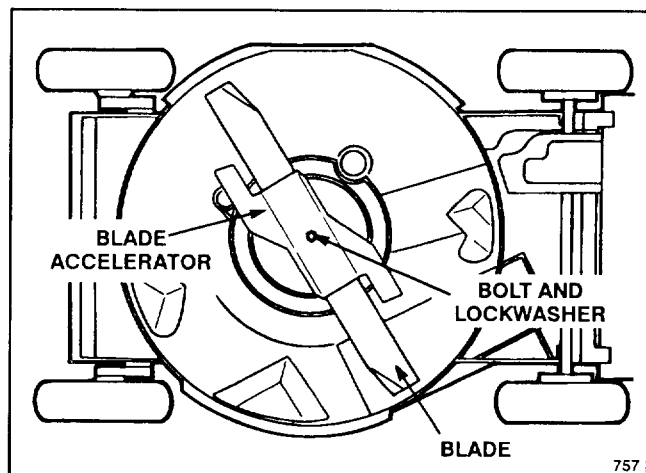

Figure 25
3. Tip mower on its right side (Fig. 25). Avoid rotating blade as starting problems may result.
5. **REMOVING BLADE**—Grasp end of blade using a rag or thickly padded glove. Remove blade bolt, blade accelerator, and blade (Fig. 25).